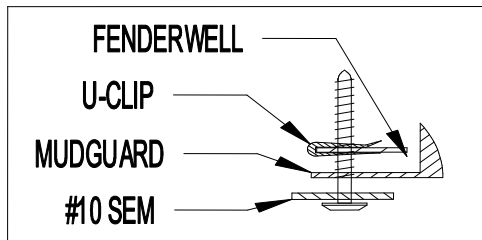

FIGURE 1
3. Pull fender liner forward and install U-clip at location B. U-clip clips over fender. (Figure 1).